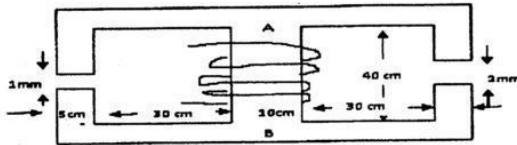

Fig. 11 (a)
11. a) For the magnetic circuit shown in Fig. 11 (a), with a core thickness of 5 cm, exciting current of 0.5A wound with 1000 turns coil, find the flux density and flux in each of the outer limbs and the central limbs. Assume relative permeability for iron of the core to be a) infinity b) 4500. (13)